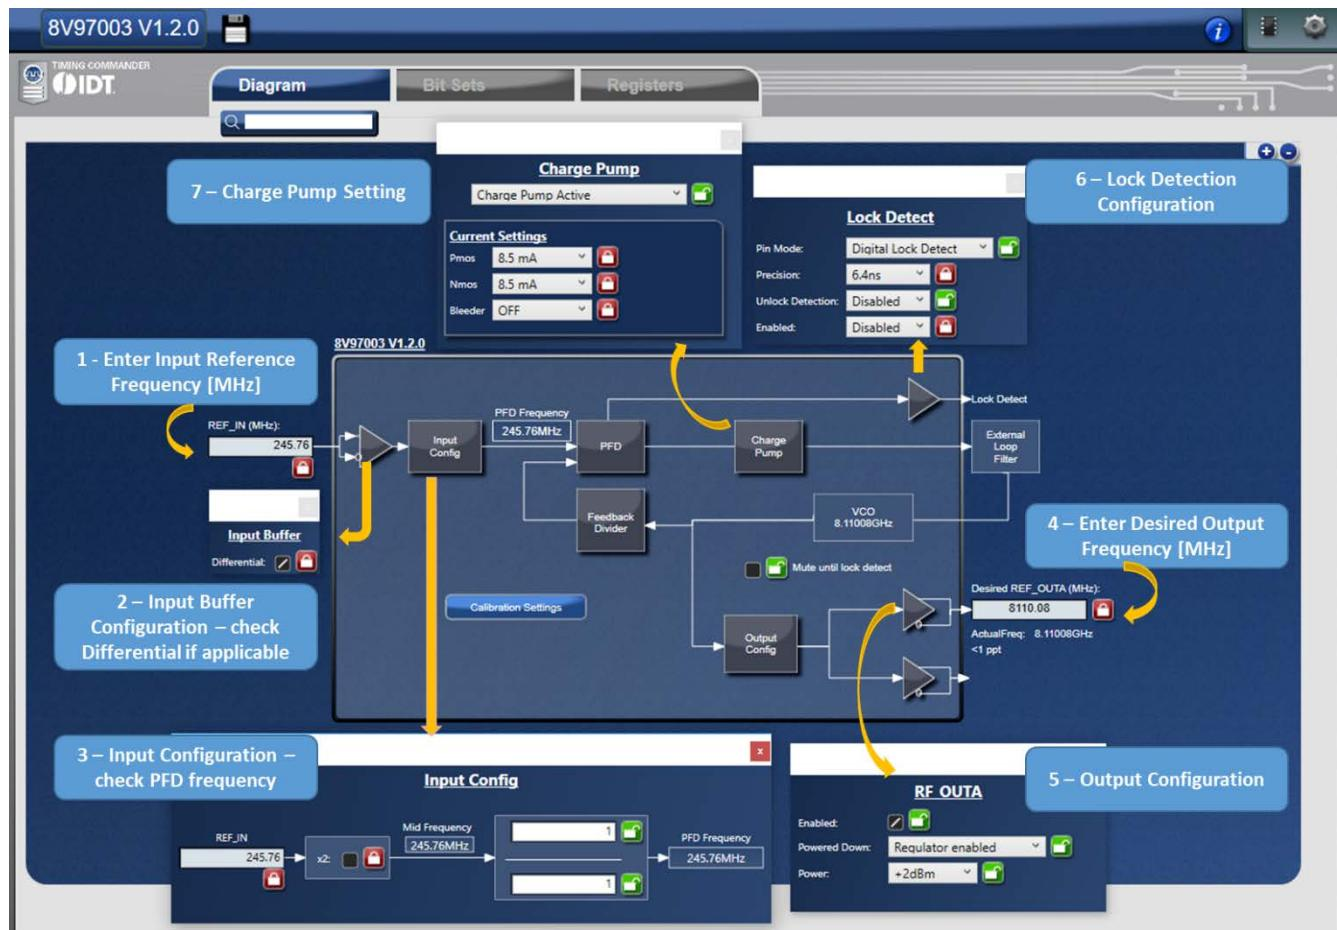

Figure 19. Timing Commander GUI for Creating New Integer Mode Configuration
- c. Set Pmos = 8.5mA, Nmos = 8.5mA, Bleeder = 1100 $\mu$ A to improve phase noise performance as shown in Figure 19.